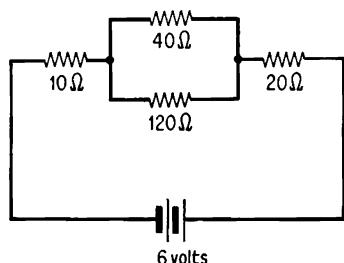

Fig. 76
22. What current will flow through (a) the 10 ohm resistor, (b) the 120 ohm resistor in Fig. 76? What will be the p.d. across (i) the 40 ohm resistor, and (ii) the 20 ohm resistor?